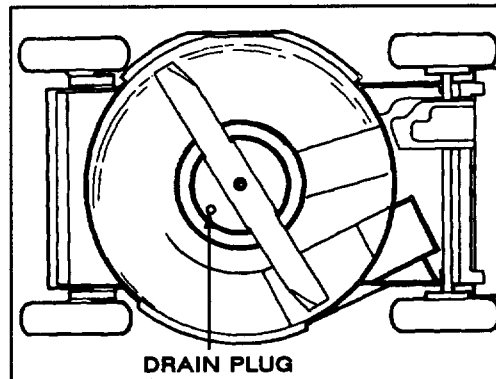

Figure 17
2. Push spark plug wire onto spark plug (Fig. 17).
3. Tip mower on its right side. Remove drain plug from underside of mower using an adjustable wrench (Fig. 17). Place a drain pan under mower.